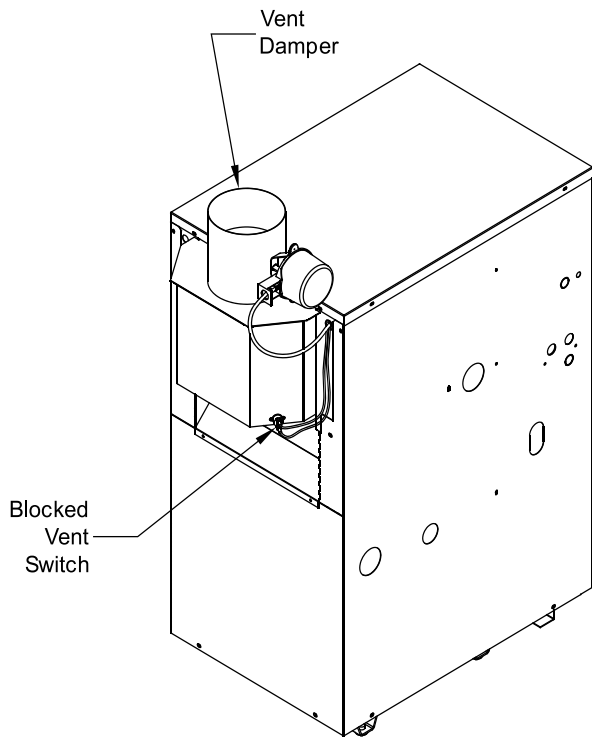

Figure 1: Boilers with Rear Relief Opening
- Boilers designed for chimney venting are equipped with a blocked vent switch located as shown in Figure 1 or 2, depending on the specific boiler design. If this switch opens, the boiler will not fire. Call a qualified heating service agency to diagnose and the problem and reset this switch if necessary.
- (Chimney vent boilers only) Blocked vent switch not surely attached as shown in Figure 1 or 2, as applicable